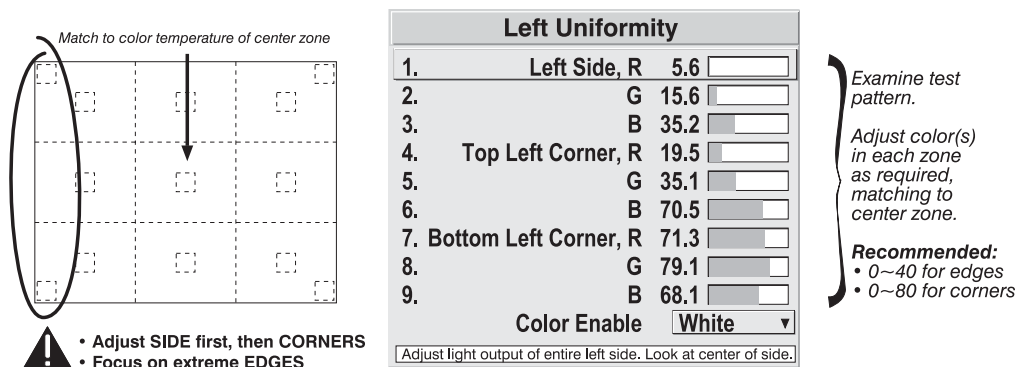

Figure 3.30. Match Zones to Center Color Temperature
- 2b)** Return to the *Brightness Uniformity* menu. Beginning with the screen that exhibits the most obvious color shift(s), for each edge that exhibits a noticeably different color temperature from the center, select the corresponding *Uniformity* adjustment menu—*Left, Right, Top* or *Bottom*. For example, if any part of the left side is too blue, too red or too green, go to the *Left Uniformity* menu and adjust the colors (i.e., change their light output) until all portions of the left side closely match the center color temperature. Adjust an edge first (focusing on its center), then adjust its corners. See Figure 3.30.